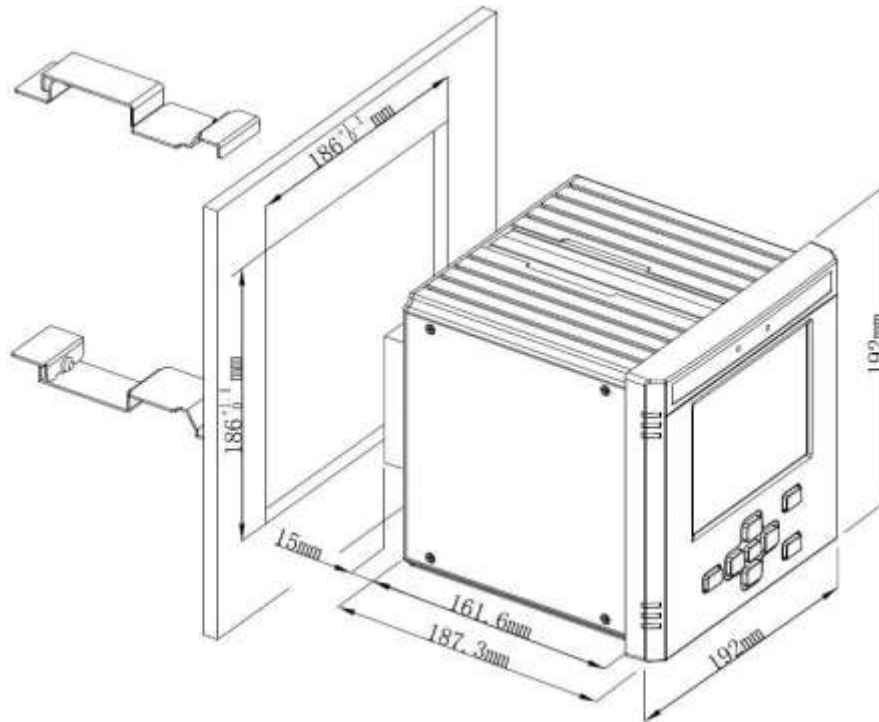

Figure 2-4 Panel Cutout
- Fit the meter through a 186mmx186mm cutout as shown in Figure 2-4